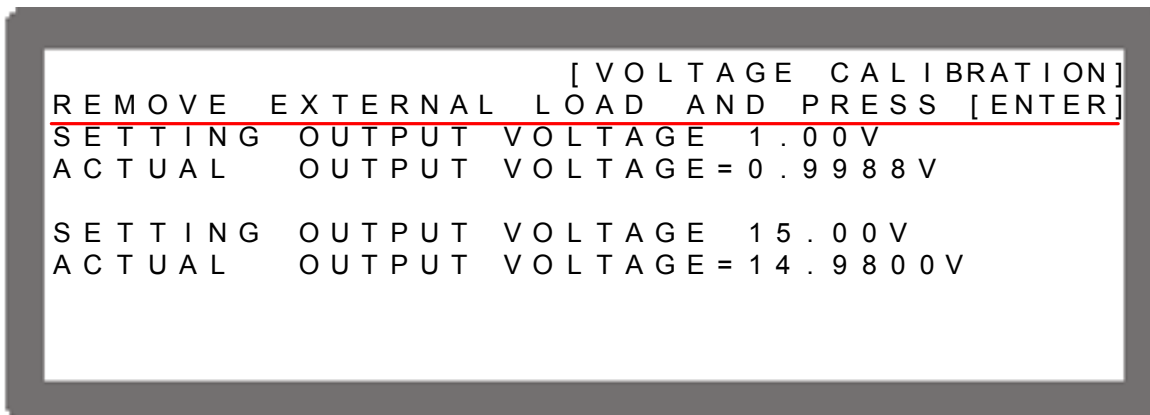

Figure 3-99
3. Press “” to confirm entering into voltage calibration options as Figure 3-99 shows.